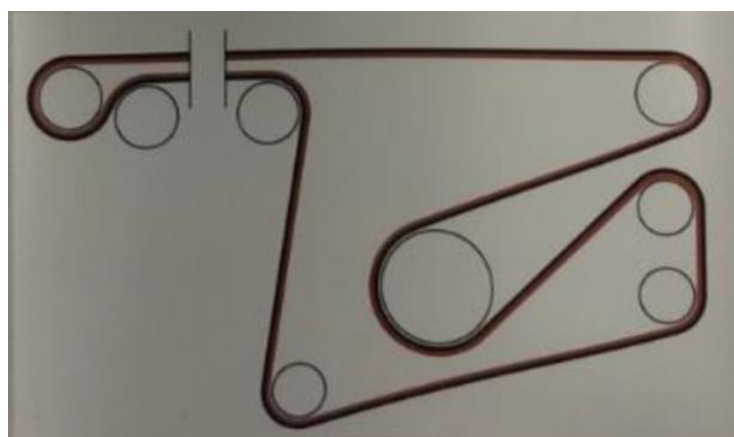

Figure 12 Conveyor belt routing
6. Assemble Conveyor Belt by refer to below routing. May refer to Figure 12